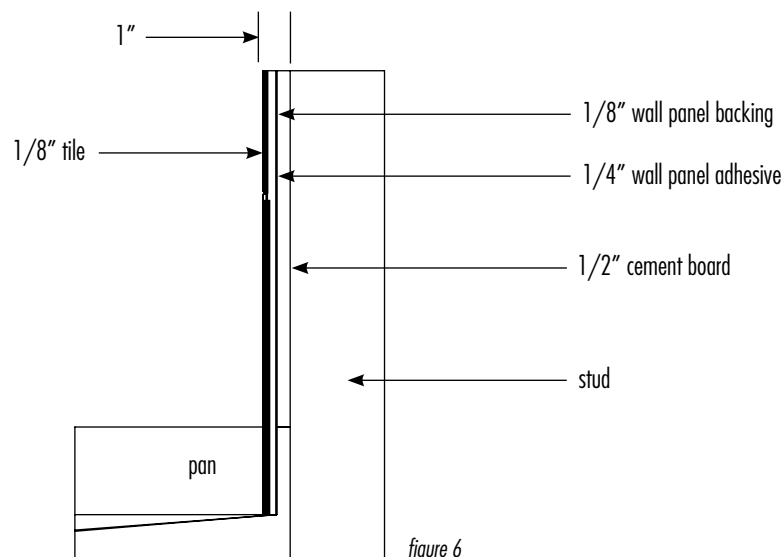

figure 6
3. Finish wall surface is approximately 1" out from the stud. Make sure outer surface of the blue mud plate is approximately 1" from the stud. This will ensure the trim pieces on the faucet will fit properly (fig. 6).